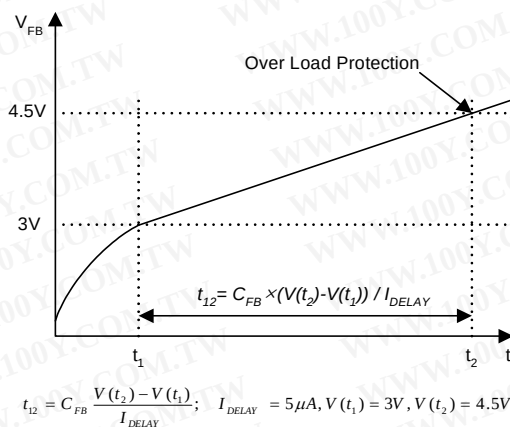

Figure 8. Over Load Protection (OLP)
4.1 Over Load Protection (OLP) : Overload is defined as the load current exceeding a pre-set level due to an unexpected event. In this situation, the protection circuit should be activated in order to protect the SMPS. However, even when the SMPS is operating normally, the over load protection (OLP) circuit can be activated during the load transition. In order to avoid this undesired operation, the OLP circuit is designed to be activated after a specified time to determine whether it is a transient situation or an overload situation. In conjunction with the Ipk current limit pin (if used) the current mode feedback path would limit the current in the Sense FET when the maximum PWM duty cycle is attained. If the output consumes more than this maximum power, the output voltage (V_o) decreases below its rating voltage. This reduces the current through the opto-coupler LED, which also reduces the opto-coupler transistor current, thus increasing the feedback voltage (V_{FB}). If V_{FB} exceeds 3V, the feedback input diode is blocked and the 5uA current source (I_{DELAY}) starts to charge C_{fb} slowly up to V_{cc} . In this condition, V_{FB} increases until it reaches 4.5V, when the switching operation is terminated as shown in Figure 8. The shutdown delay time is the time required to charge C_{fb} from 3V to 4.5V with 5uA current source.